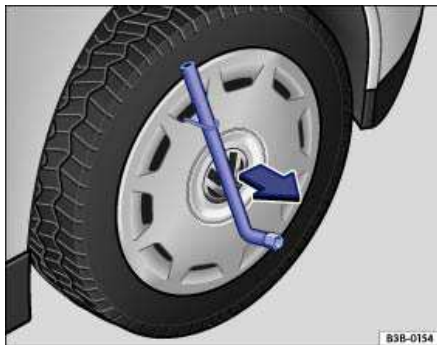

Fig. 184 Pulling the wheel cover off.
- Slide the lug wrench through the clip ⇒ fig. 184 and pull the wheel cover off in the direction of the arrow.